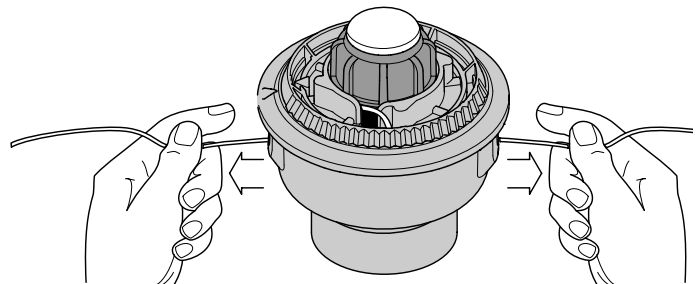

Fig. 41
9. If winding the line becomes difficult or if the line jams, pull the ends of the line from the spool (Fig. 41). Continue winding the inner reel counterclockwise.
If the SpeedSpool® does not release line correctly, pull the ends of the line firmly from the spool (Fig. 41). If this does not release the line, follow the *Cleaning the SpeedSpool®* instructions.